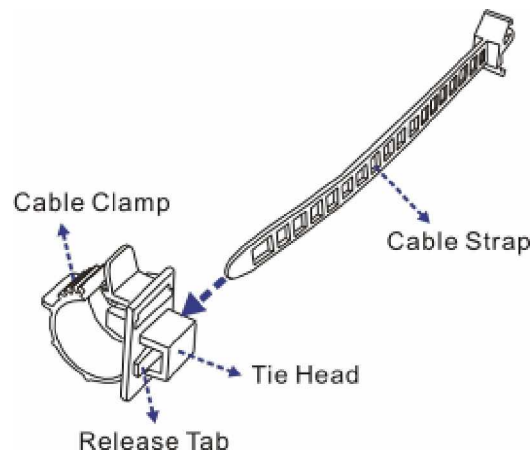

Figure 2-14: Assembling the Power Cord Clamp
Step 1. Connect the cable clamp to the cable strap. Insert the flat angled end of the cable strap through the small opening (the tie head) underneath the cable clamp with the smooth side of the strap facing up and the ribbed side facing down and the release tab at the end. Press down the release tab to adjust the position of the cable clamp along the strap. See *Figure 2-14*.